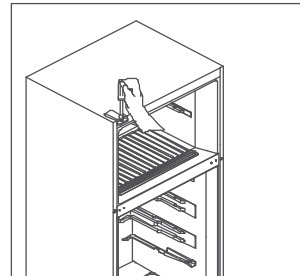

Fig. 6
6. Assemble the top hinge and the hinge cover on the left side. (Fig. 6)